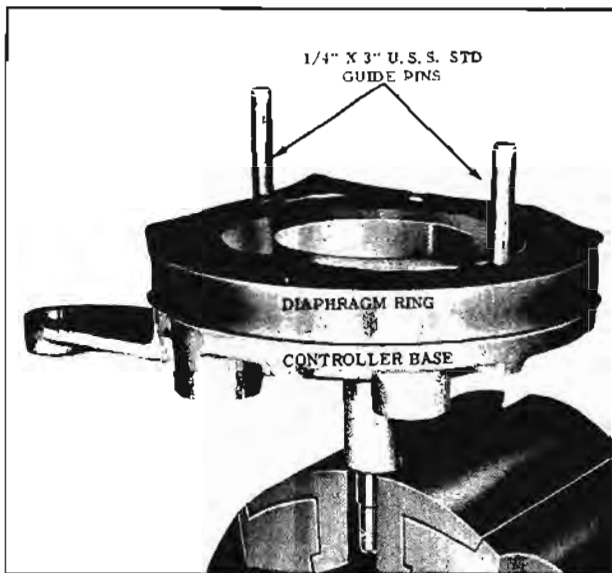

Fig. 8-167 Diaphragm Alignment
5. Install two guide pins 1/4" x 3", U.S.S. standard bolts, in the controller base. (Fig. 8-167)
7. Clamp in brass jawed vise as shown in Fig. 8-167.
8. Compress the controller stack up and install two (2) opposite bolts finger tight.